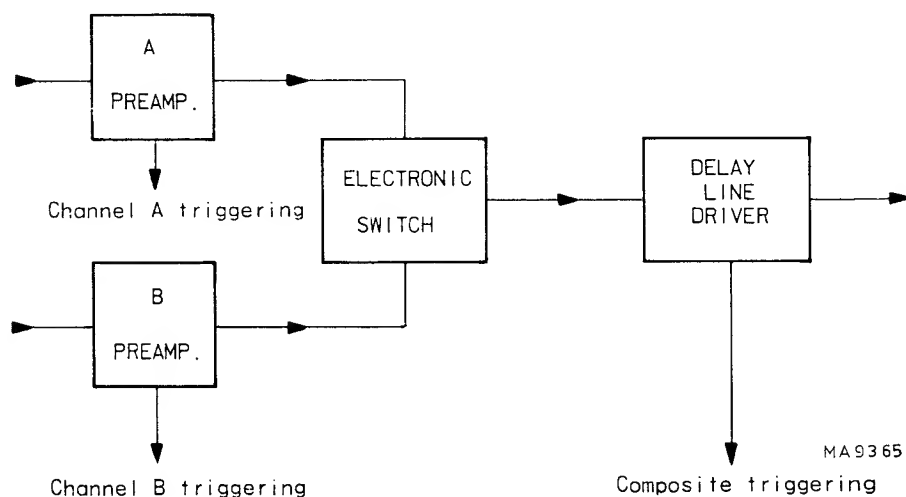

Fig. 2.5. Block diagram of composite trigger circuit
**Note:** When composite triggering is employed in dual channel operation (chopped or alternate), and there is only one signal applied (to A or B input), stable triggering cannot be obtained. This is only normal since the trigger source is also switched from A to B (see Fig. 2.5).